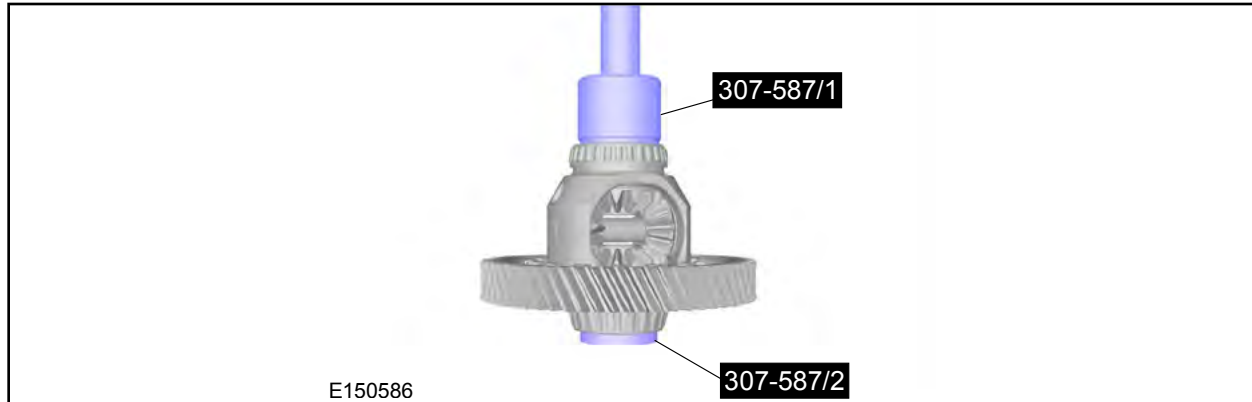

FIGURE 15
12. Install the *new* upper differential bearing. See Figure 15.